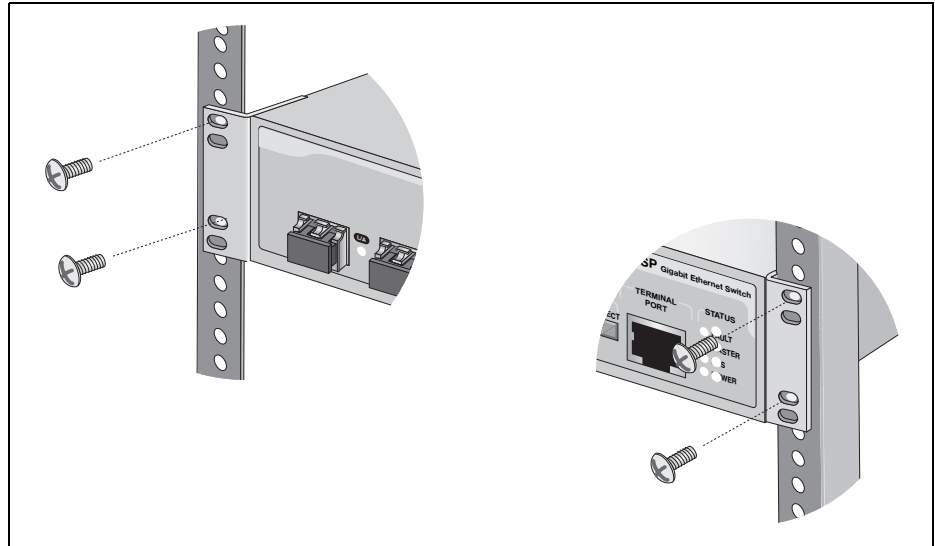

Figure 17. Mounting the Switch in a Rack
6. Mount the switch in a 19-inch rack using standard screws (not provided), as shown in Figure 17.